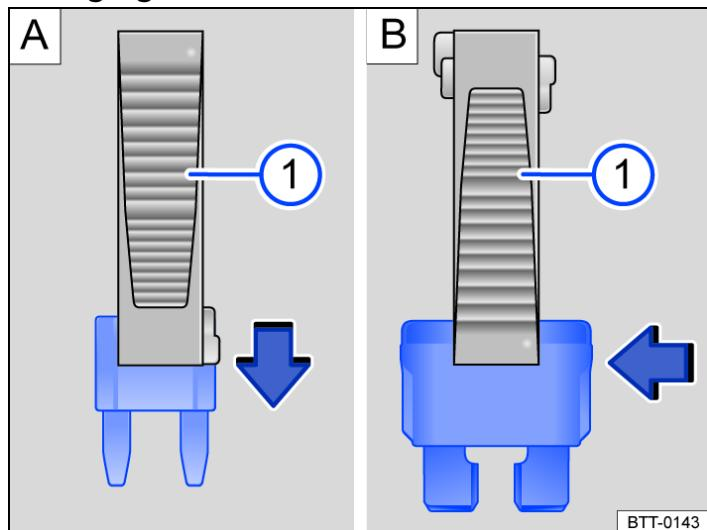

Fig. 2 Removing or inserting fuse with plastic pliers 1 (illustration).
1. If applicable, take the plastic grippers out of the fuse box or the cover of the fuse box → Fig. 2 1.
2. Push the plastic grippers clip suitable for the fuse design onto the fuse from the top or the side → Fig. 2.